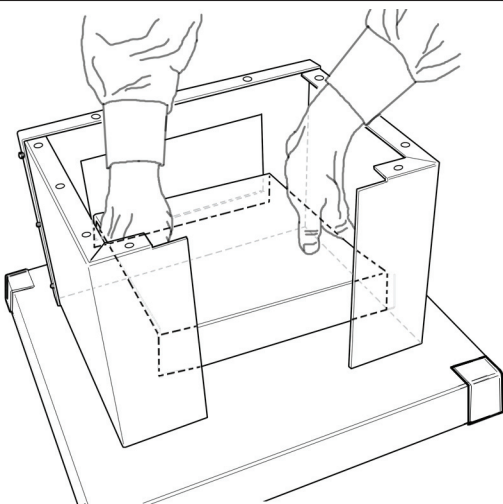

Figure 5 – Insert Ash Drawer Support.
4. Attach the pedestal front frame to the sides. The pedestal front should go **over** (not inside of) the side panels. Use three (3) machine screws, lockwashers & hex nuts (provided in the hardware pack) on each side to attach both pedestal sides (#31) to the pedestal front (#32).
5. Position ash drawer support into assembled pedestal (Figure 5) and secure from rear with two (2) machine screws, lock washers and hex nuts. Tighten all pedestal hardware.